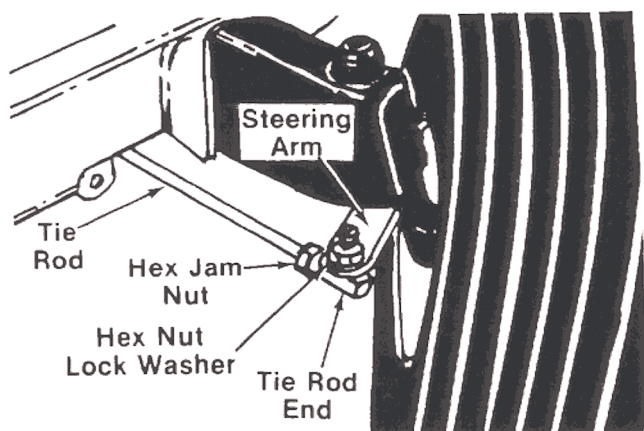

FIGURE 19.
1. Remove the hex nut and lock washer, and drop the tie rod end from the wheel bracket. See figure 19.